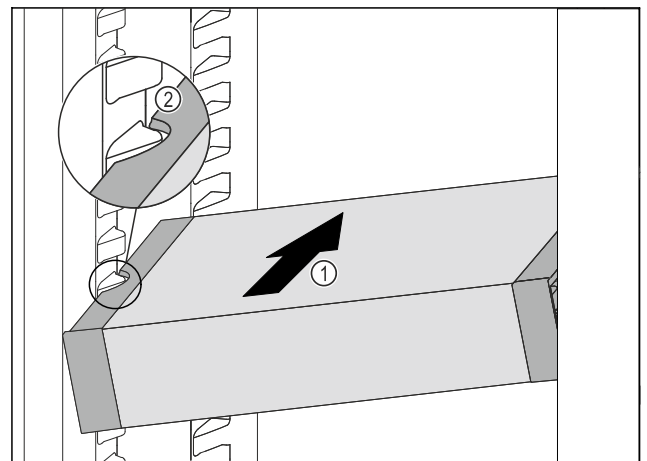

Fig. 135
- Insert the VarioSafe into the fridge section at an angle Fig. 135 (1) until the recesses in the side Fig. 135 (2) of the VarioSafe are at the level of the support rib in the fridge section.